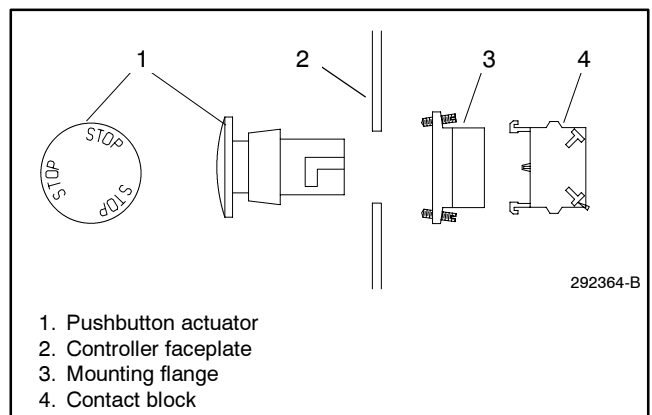

Figure 2 Emergency Stop Switch
6. Install pushbutton switch (292364). The switch consists of three components—pushbutton actuator, mounting flange, and contact block. See Figure 2. Insert the pushbutton actuator through the hole, from the front of the controller face panel. Align pins in the mounting flange with the channels in the pushbutton actuator, slide the mounting flange onto the actuator body, and turn the mounting flange a quarter-turn counterclockwise to lock. Adjust screws to secure the assembly to the controller face panel; do not overtighten screws. Turn the pushbutton clockwise to reset, if required.
7. Attach the contact block to the switch assembly. See Figure 2.